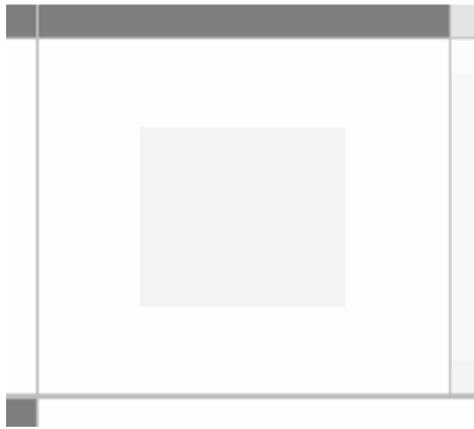

Figure 5: The 95-100% contrast square from the TG18-QC Test Pattern
- Examine the 0%-5% and the 95%-100% contrast squares (**Figure 5**) located at the ends of the luminance square frame. Record if the patches are visible on the relevant monitor QC charts.
The smaller, 5% contrast squares (see **Figure 5**) should be visible in both the dark (05%) and light (95-100%) squares. If the squares with a 5% luminance difference are not visible, the monitors may need to be recalibrated. If recalibration fails to correct the problem, contact the monitor service person.